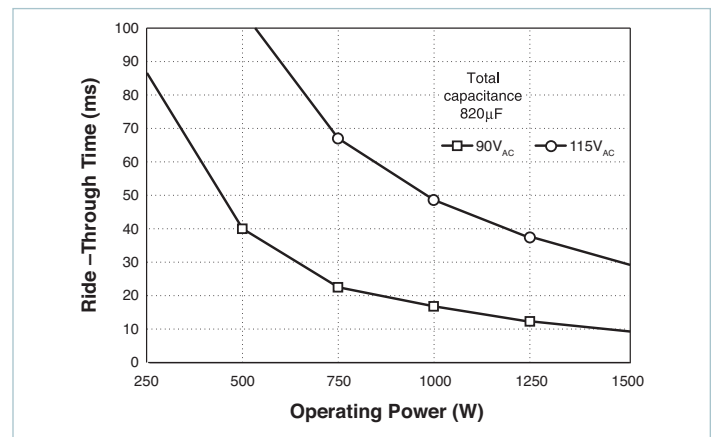

Figure 7.9 — Ride-through time vs. operating power
**Determining Ride-through Time:** Figure 7.9 illustrates ride-through time as a function of line voltage and output power and shows that at a nominal line of 115VAC, ride-through would be 68ms. Ride-through time is a function of line voltage.